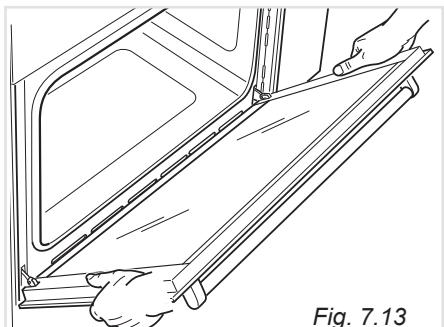

Fig. 7.13
- Hold the door as shown in fig. 7.13.